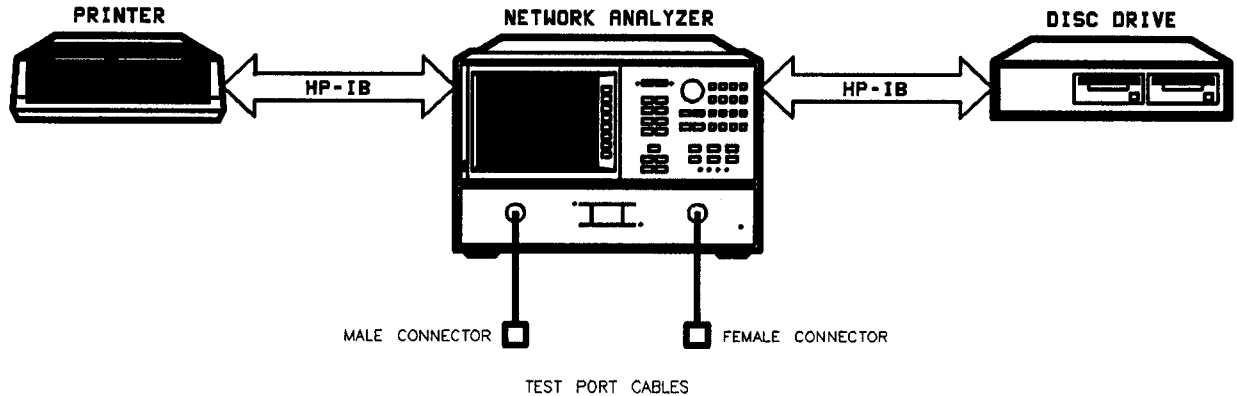

Figure 4-8. System Verification Setup
1. Connect the system as shown in Figure 4-8.